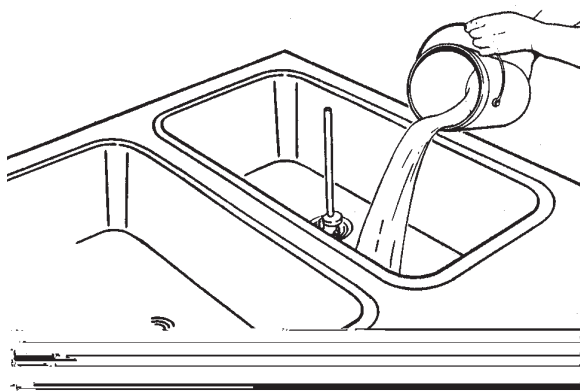

Figure 15. Pouring the Mix
- C. With spigots open, pour approximately 1 gallon (3.8 liters) of mix into the hopper. Allow the mix to flush out about 8 ounces (0.23 liters) of sanitizing solution and liquid mix. Close the spigot. (Fig.15)